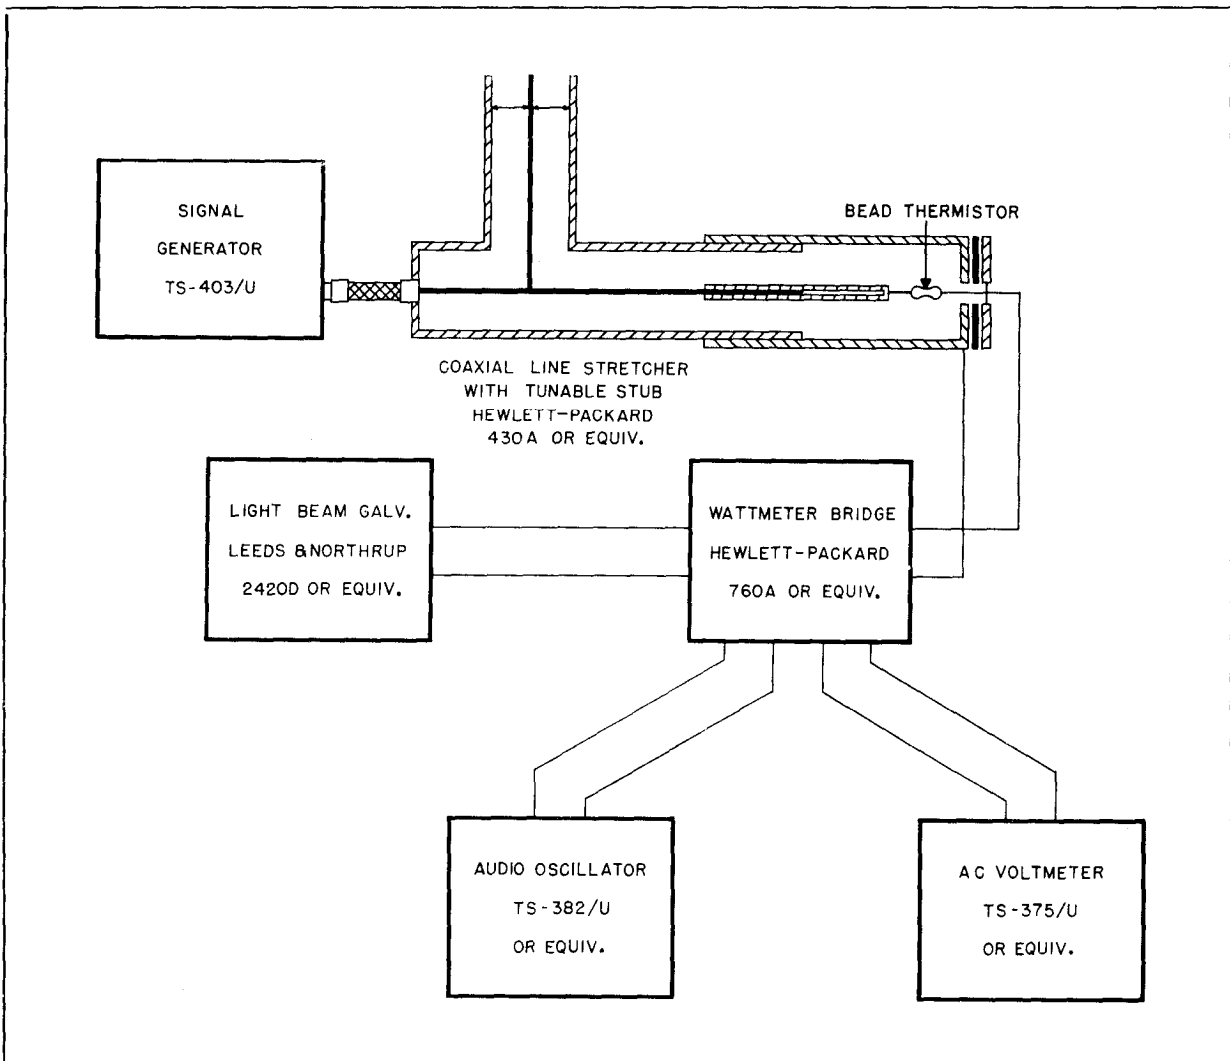

Figure 4-46. Test Set-up for Calibrating Output Attenuator
The CW output power of the instrument should then be measured at a 200 microwatt level at frequency intervals of 100 megacycles throughout the frequency range. A test set-up like that shown in figure 4-46 is required for this measurement. It is necessary when measuring the output in this manner to keep the reading of the power level meter at the mid-scale mark, to keep the attenuator dial reading constant and to keep the power level meter properly zero set by (by frequently setting the modulation selector switch to the OFF position and adjusting the ZERO SET control as necessary). The data obtained from these measurements should be plotted in the form of a response curve for the instrument (dbm versus frequency). A typical response consists of a series of peaks and troughs having amplitude of about two and one-half dbm in the maximum case. A horizontal line should now be drawn through the response curve in such a way that the variations are averaged about the line.
l. Replace the plunger and tighten the #8 set screws so that the same length of plunger is exposed as was measured in step a above, and so that the loop is in line with the gear rack as shown in figure 4-46.
m. After the plunger has been replaced, it is necessary to check the accuracy of the output attenuator dial as described in paragraph 10b (2) and to readjust the setting of the plunger if required. The measured output power should be accurate within one and one-fourth decibels from that indicated by the output attenuator dial and, oftentimes, the output power will be accurate within about one decibel when the RF probe plunger is carefully adjusted. If the response curve shows a general rise at high frequencies, the usual trouble is that the pick-up loop is too large. A general drop at high frequencies indicates that the pick-up loop is too small